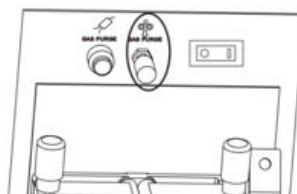

Figure 3-6 Inching feeding of a manual wire-feeder
2. Inching feeding of a manual wire-feeder is shown in Figure 3-6.